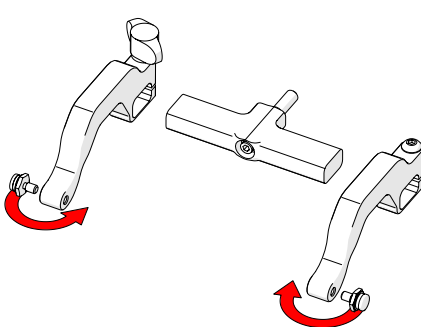

Fig. 47 - Position pivot buttons
5. Position the pivot buttons to the inside of the probe holder arms (Fig. 47).